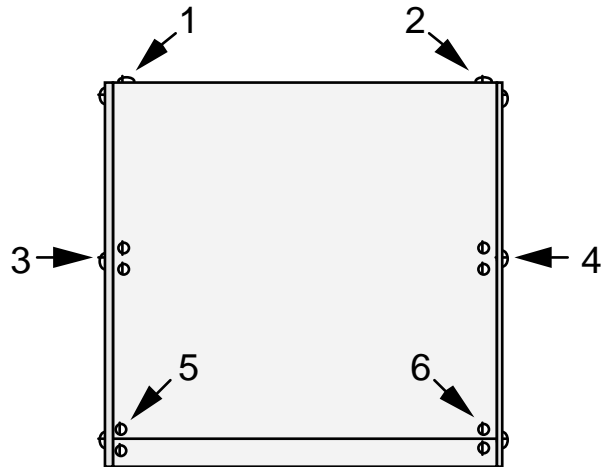

Figure 10
- Remove the six K2 top cover screws shown in Figure 10.